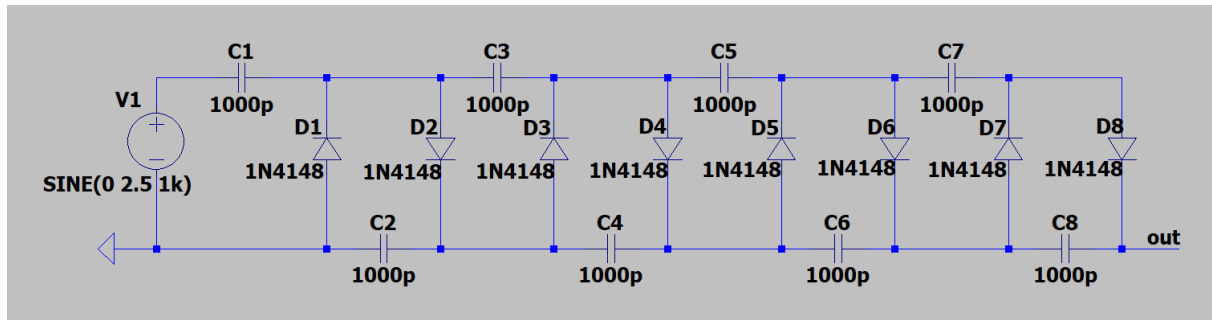

Figure 7: A Four-Stage Half-Wave Cockcroft-Walton Generator Circuit
- For example, in figure 7 we have 8 diodes, let us divide it 2. Then, we have **four stages**.